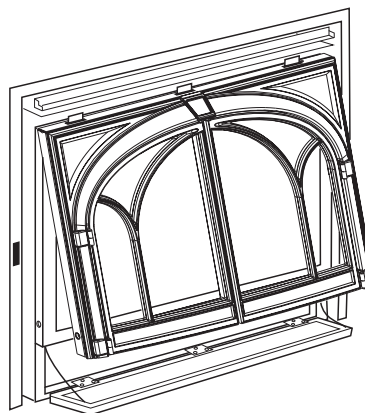

Figure 45. Hang the frame on the cabinet.
The door assembly attaches to the fireplace by engaging the three slots in the upper frame with the corresponding steel tabs at the top of the firebox. See fig. 45.
- 1. Open the Control Access Door.** Hang the door frame onto the firebox by engaging the tabs with the holes in the frames. See fig. 45.